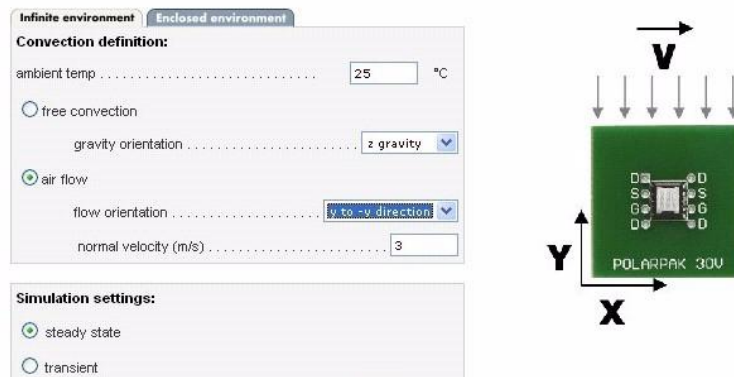

Figure 40.
- **Y to -Y direction** for air blowing over the PCB in -Y direction over the component (see Figure 40).